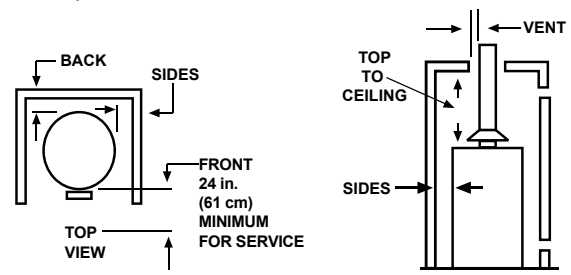

FIGURE 2.
- Figure 2 may be used as a reference guide to locate the specific clearance locations. A minimum of 24 inches (61 cm) of front clearance should be provided for inspection and service.